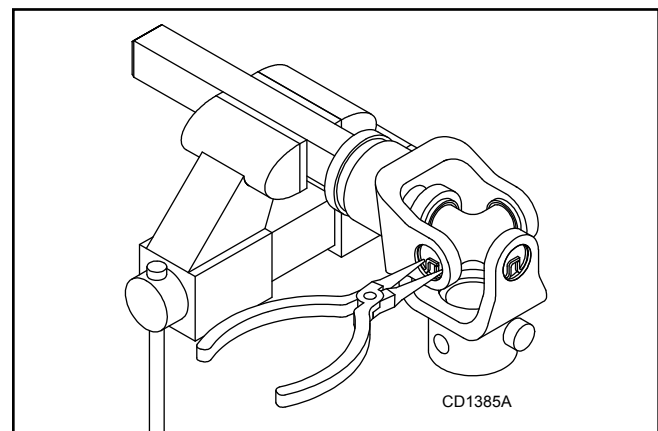

Figure 22. Remove Snap Ring
1. Remove external snap rings from yokes in four locations as shown in Figure 22.